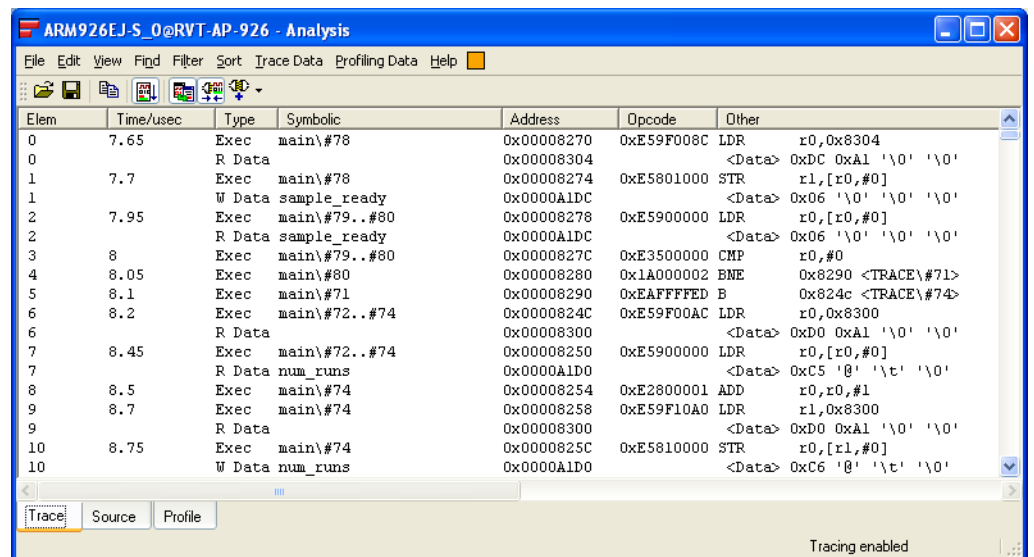

Figure 10-44 Captured trace in Analysis window
8. Scroll down until the start of `main` is visible. Figure 10-44 shows an example.